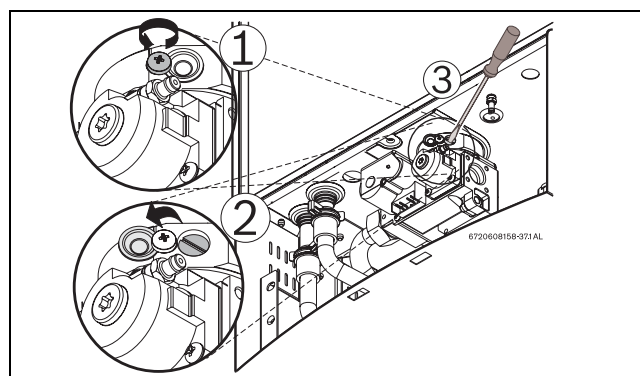

Fig. 58 Adjusting P1 CO₂ level
- ▶ Loosen yellow painted philips screw (→ Fig. 58, pos. 1) and cover should rotate down (→ Fig. 58, pos. 2) revealing a recessed brass slotted screw. (→ Fig. 58, pos. 3).
- ▶ Remove yellow painted #40 Torx cover from the front of the gas valve (→ Fig. 58). A plastic #40 Torx screw will be revealed.
- ▶ Return slotted screw cover to original position and tighten the philips screw (→ Fig. 58).